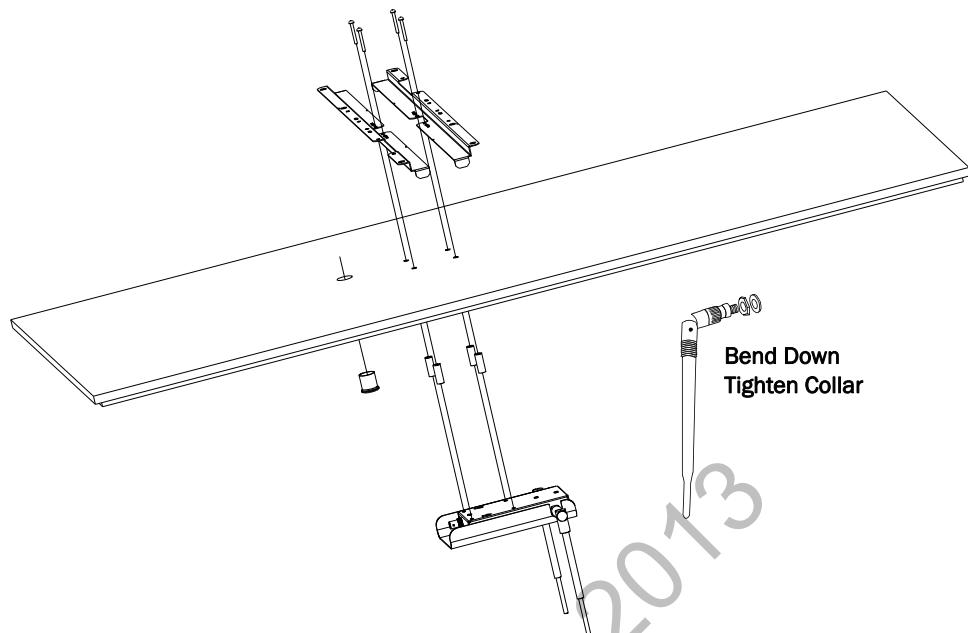

Figure 2-20: Mounting the RA Below a Ceiling Tile (Fixed Mount)
7. Insert the four (4) M3.5 x 30 lobe screws into the RA mounting rail holes, through the ceiling tile, through the provided plastic spacers, and into the mating holes in the back of the RA chassis as shown in Figure 2-20. Torque-tighten each screw to 8-inch lbs.